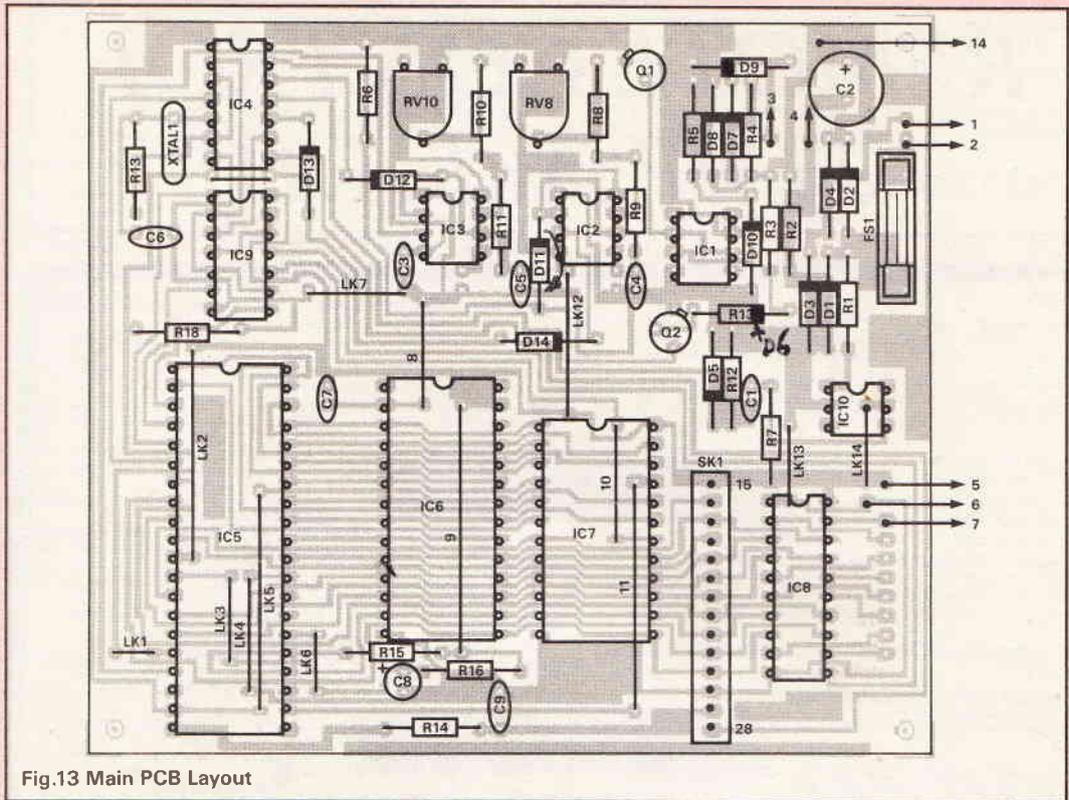

Fig.13 Main PCB Layout
**T**he assembly of the main PCB is straightforward. First, fit the 15 wire links as shown on the component layout in Figure 13. It is essential these links are fitted first, and checked, because some of the links go beneath the IC's and it would be difficult to make any changes later. The components can then be fitted to the PCB, starting with the smaller components such as resistors and diodes. IC sockets should be used for all the integrated circuits, but at this stage, don't fit the IC's into the sockets. Lengths of stranded wire should be soldered to the eight connection points as shown. The wiring to the display PCB (connection numbers 15 — 28) may be terminated on 0.1" push connectors or soldered directly to the PCB, if desired.